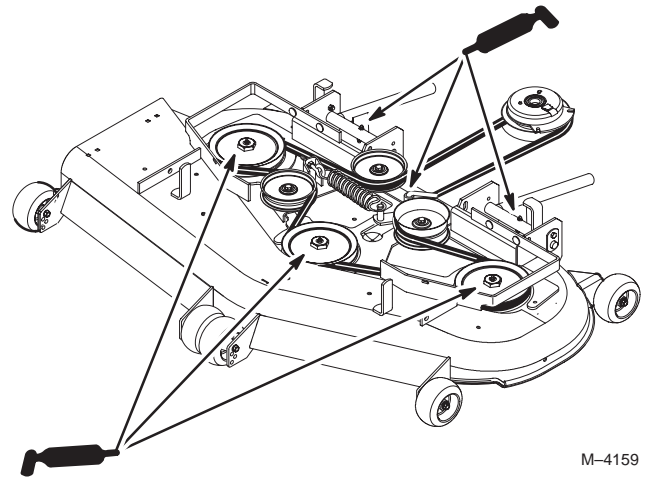

Figure 39
3. Grease the fittings on the three spindle bearings (Fig. 39).
4. Grease the idler pulley pivot (Fig. 39).
5. Grease the fittings on the push arms (Fig. 39).